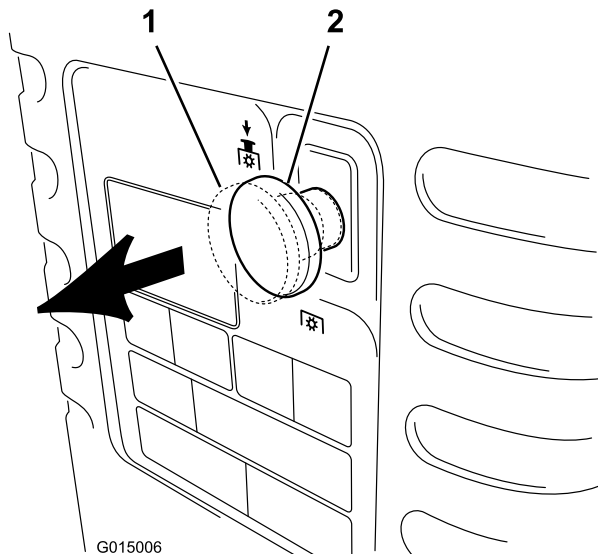

Figure 8
2. Pull the blade control (PTO) knob to the On position (Figure 8).
2. Push the blade control (PTO) to the Off position (Figure 8).